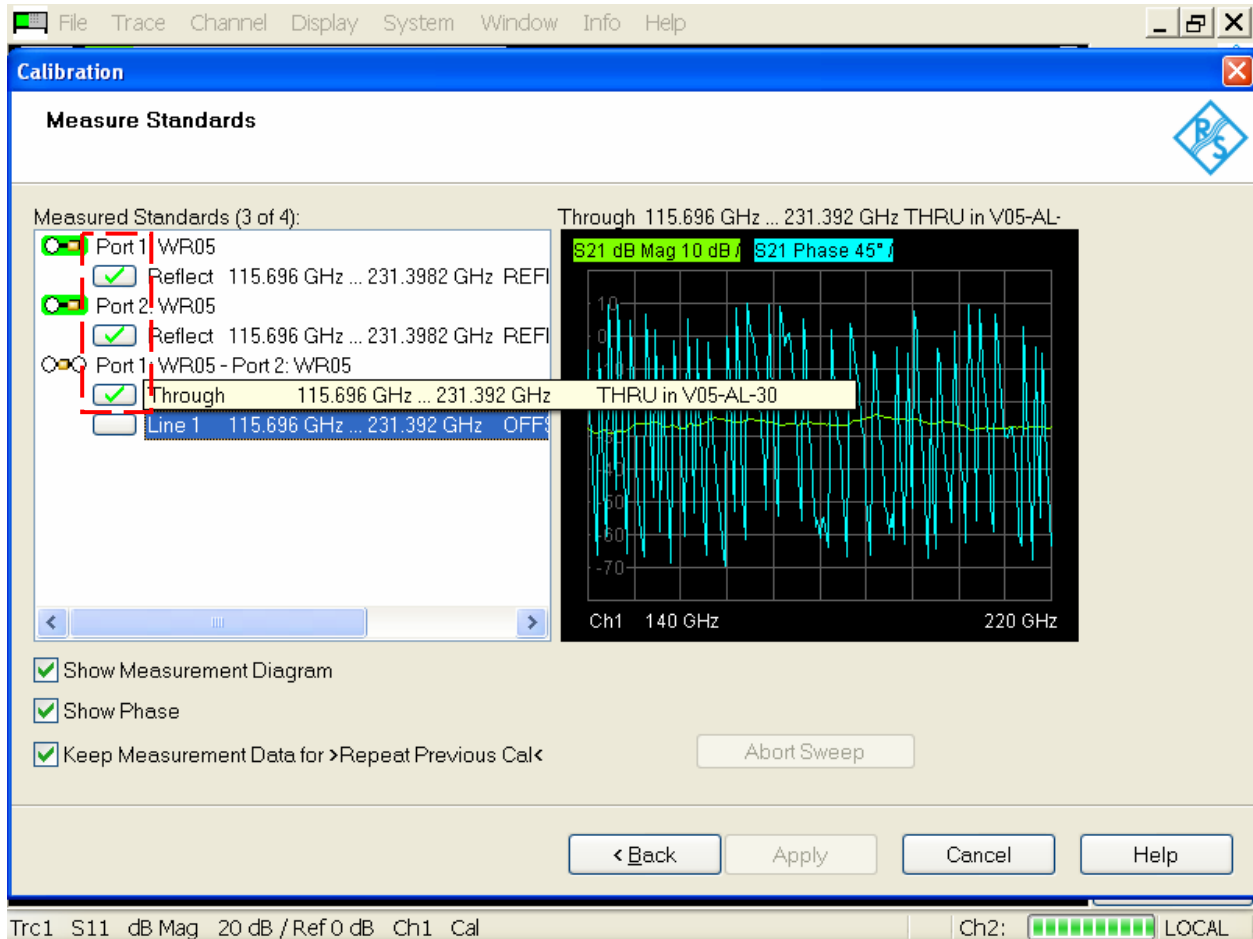

Figure 5 – “Thru” Standard Measurement
8. Select **“Port 1: WR05 – Port 2: WR05 -Through”** to start **“Thru”** standard measurement. A **“green”** check mark will appear once measurement is completed (Figure 5).
10. Select **“Port 1: WR05 – Port 2: WR05- Line 1”** to start **“Line”** standard measurement. A **“green”** check mark will appear once measurement is completed (Figure 5).